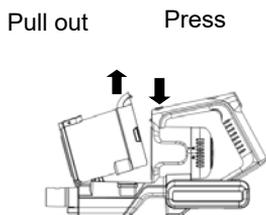

Fig. 13
2. Click the dust container release button, located on the front of the handle just above the dust container and pull dust container out (Fig. 13)